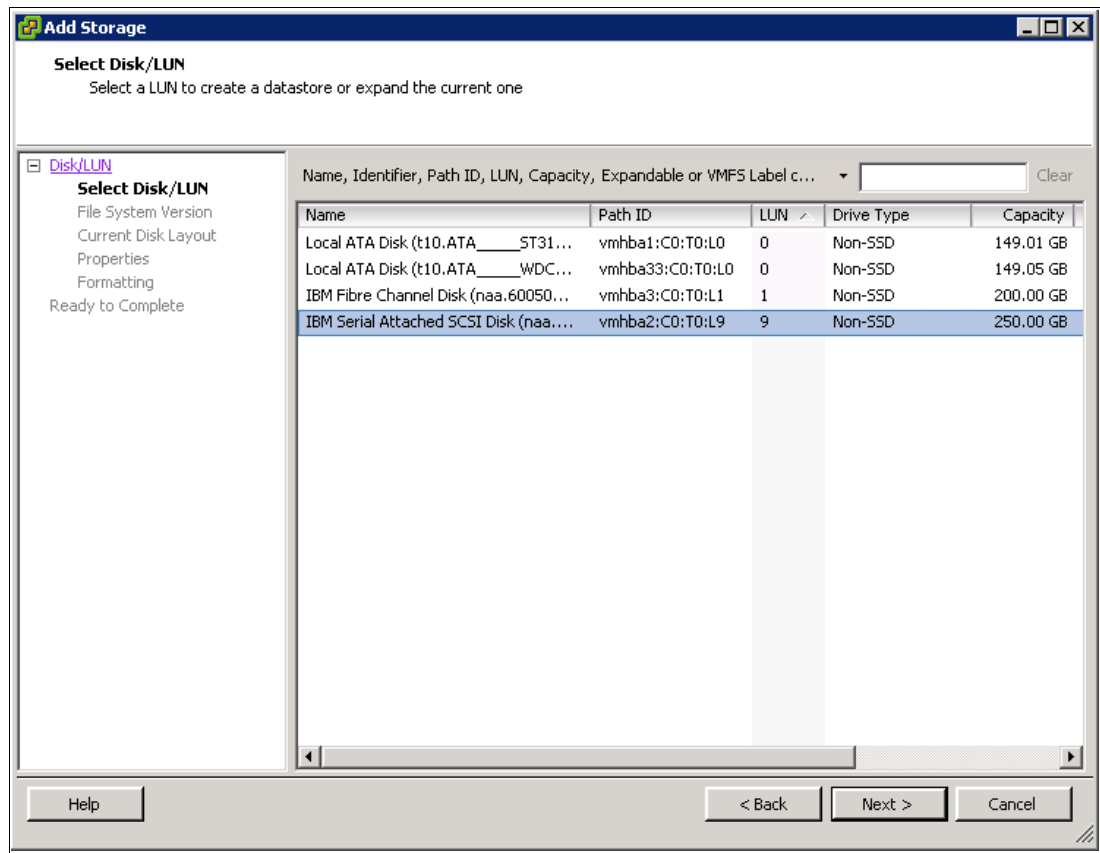

Figure 5-100 Select SAS Disk
6. The Add Storage wizard opens. Click **Select Disk/LUN** and click **Next**. The IBM Storwize V5000 disk appears, as shown in Figure 5-100. In our example, it is the SAS Disk. Highlight the disk and click **Next**.